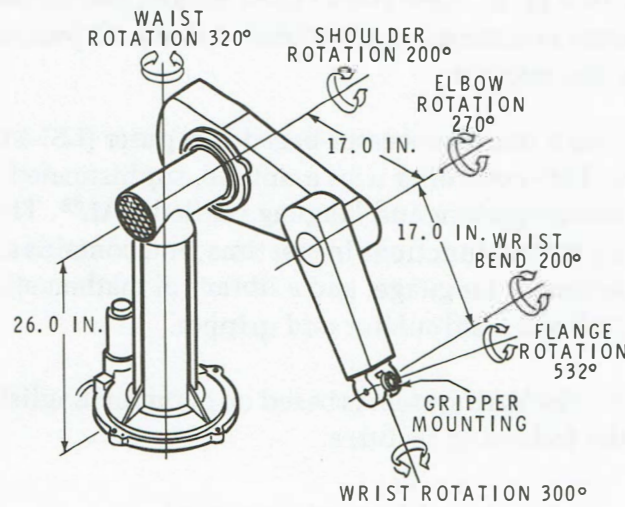

Figure 1-27
**600 Series** — The most skillful member of the PUMA family, the 600, shown in Figure 1-27, combines the characteristics of both the 250 and 500 series robots and the advanced control system. Utilizing six degrees of freedom and a 1.0 m reach, it has added flexibility to perform complex manipulations within a large working area. The applications for this unit are similar to that of the 500 series.